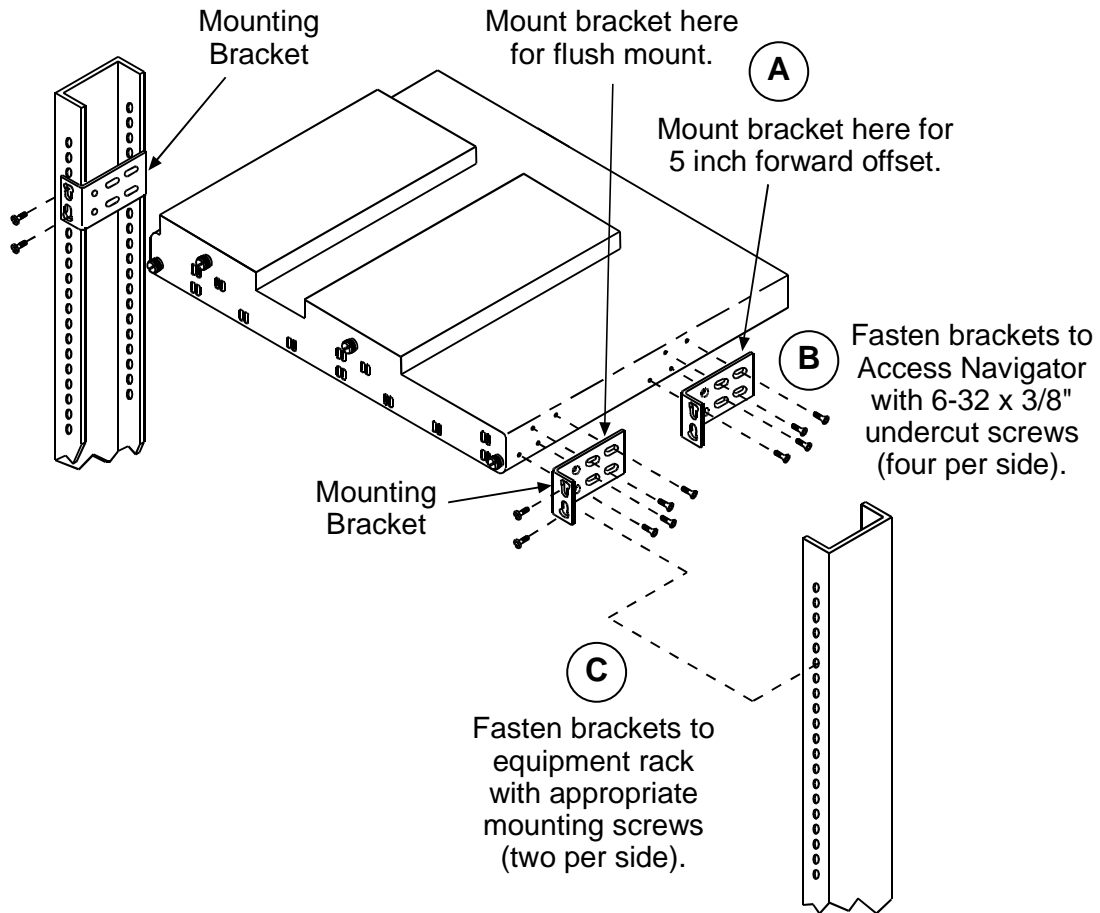

Figure 5-2. Installation in 19-inch Equipment Rack
2. Position mounting brackets for required flush mount or 5-inch forward offset with respect to front rails of equipment rack (see A in Figure 5-2 on page 5-6).
4. Attach mounting brackets to sides of Access Navigator using mounting screws removed in previous step (see B in Figure 5-2).
2. Secure mounting brackets to equipment rack using appropriate mounting screws (see C in Figure 5-2). Brackets accommodate 1.75 and 2.00 inch hole spacing.